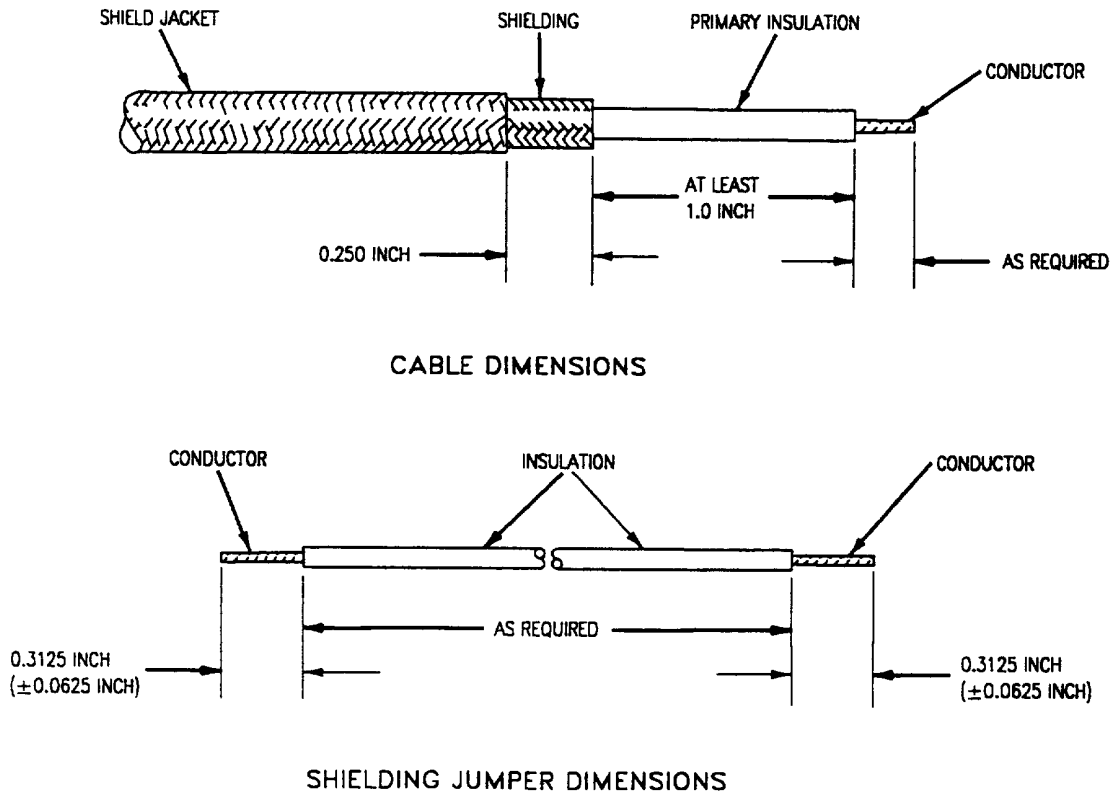

Figure 25 . Strip Cable and Shielding Jumper Wire
- a. Using wire strippers identified in WP 009 00, strip cable and shielding jumper wire as shown below in Figure 25 .
e. Shrink insulation sleeving using heat tool. See Figure 25 .